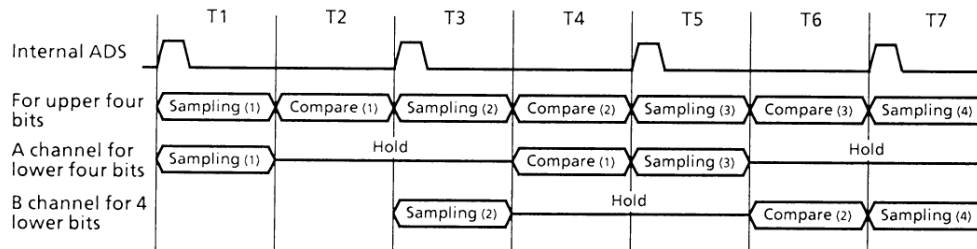

Figure 3.8 (1). Half-Flash A/D Converter Outline
the upper four bits and lower four bits separately. The function outline is shown in Figure 3.8 (2).